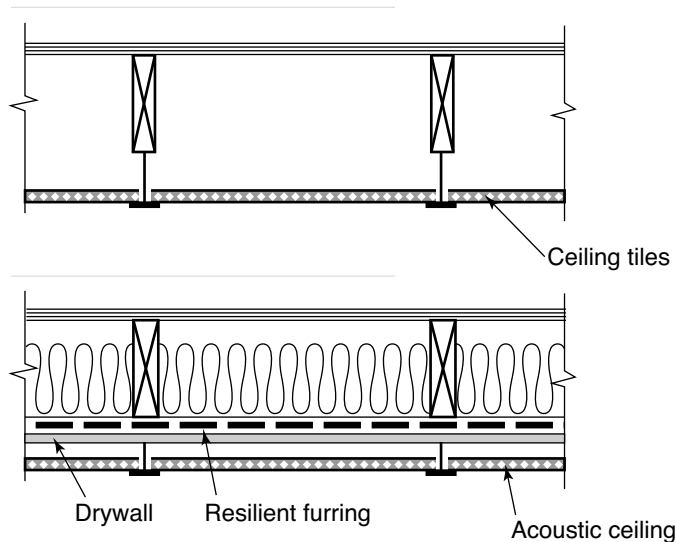

FIGURE 11
- ◆ Remove the acoustic ceiling. Install sound-absorbing fibrous insulation to three-quarters the depth in the cavity, and apply drywall on resilient metal furring. Re-install the acoustic ceiling if desired to reduce the echo in the room (see Figure 11).